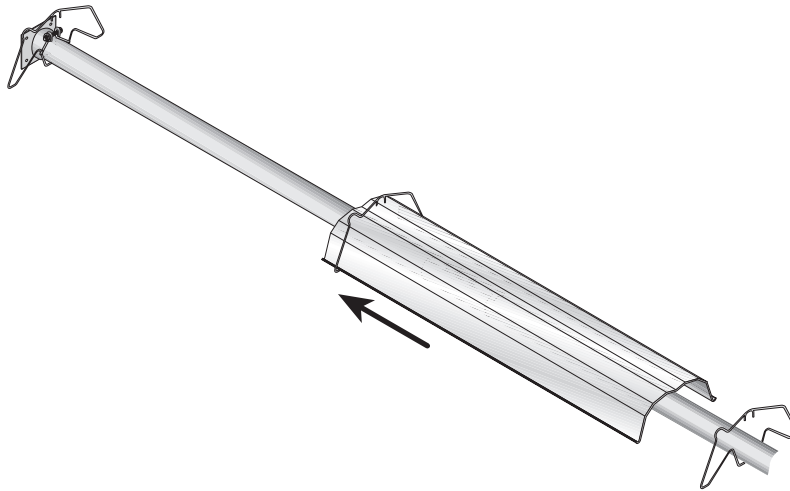

Figure 12. Reflector Installation
- a. Slide first reflector through first suspension bracket as shown in Figure 12. Reflector must slide at least 2 inches (4 cm) through suspension bracket with clamp next to burner cabinet.